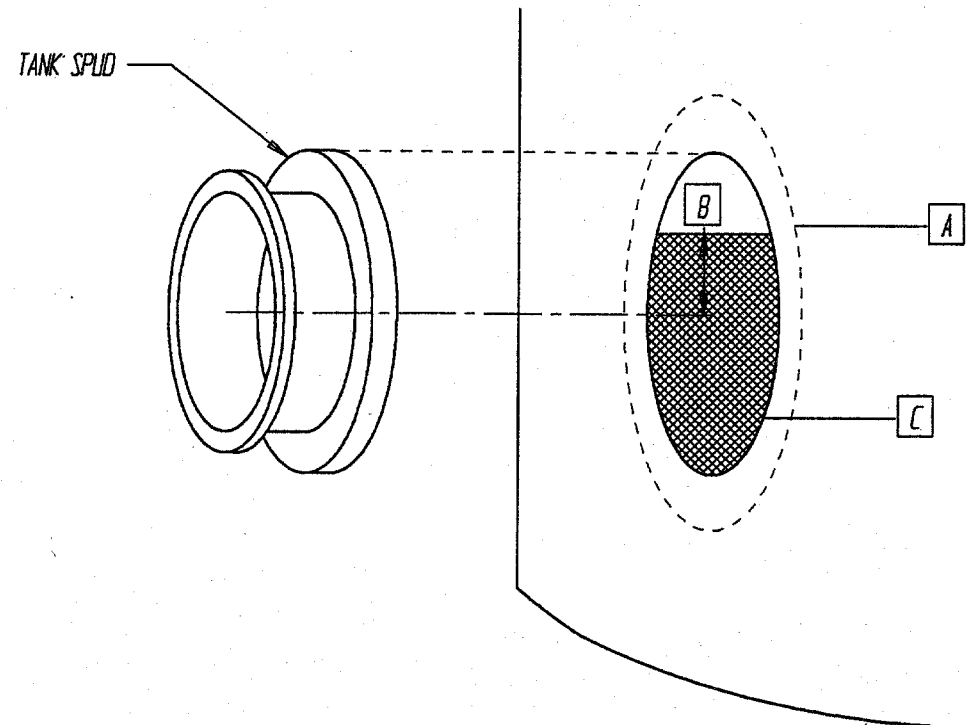

Figure 1. Tank Spud Location
Because the clearance between the inside diameter of the tank spud and the tank spud plug extension is minimal, the tank spud must be welded to the tank with a minimum of distortion. A recommended welding procedure is outlined below. An area with a minimum of 9-1/4" (235 mm) on the tank is needed to weld the tank spud as shown in Figure 1.
Vertical locations of the tank spud center line should be at least 1-1/2" (38 mm) below minimum measurement level shown as item **A** in Figure 1.
1. Cut a 6" \pm 1/16" (153 mm +2.-0) diameter hole in the tank shown as item **B** in Figure 1.